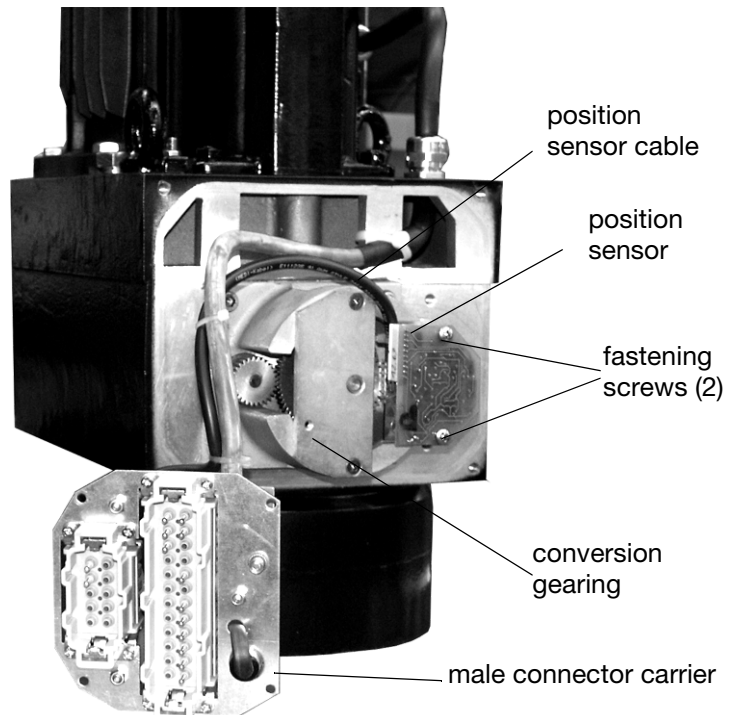

Fig. 45: Mounting position
- Loosen both fastening screws of position sensor (fig. 45) and take the sensor out.
- Align the sensor and its gears with the actuator; set the first toothed gear in 03:00 o'clock position (fig. 45) onto the gear of the conversion gearing.
- Fasten the screws (2) tightly.